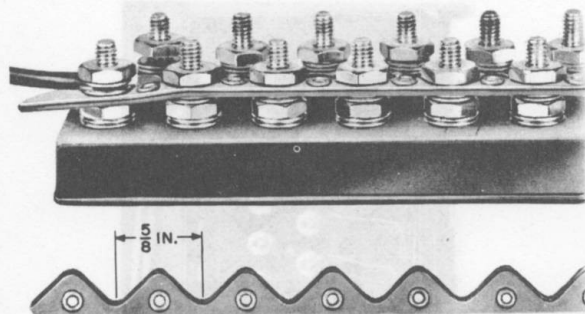

Fig. 7 — S-type Bonding Ribbon
6.02 The S bonding ribbon consists of a notched-spring brass strip fastened to a fiber insulating strip used for strapping binding posts on 5/8-inch centers (G and H binding post chambers, 30-type connecting blocks). It accommodates 16 binding posts, approximately 10 inches in length. Mount as shown in Fig. 7.